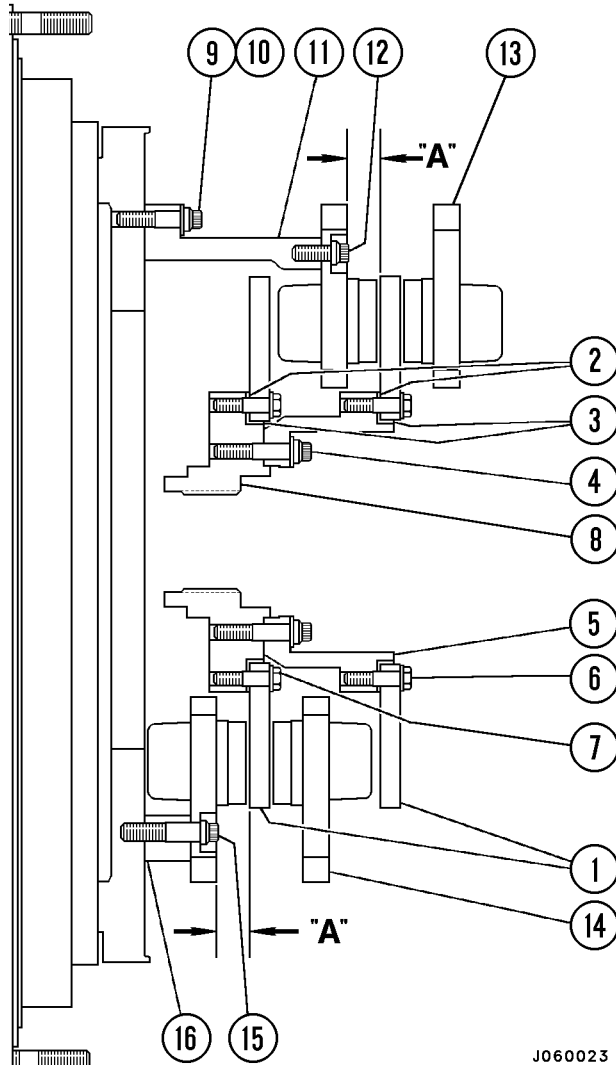

FIGURE 6-4. REAR BRAKE MOUNTING
7. Remove capscrews and flatwashers (6, Figures 6-4, 6-5 & 6-6) while supporting outboard disc (1). Tap disc and bushing assembly (3) off disc adapter (5). Remove shims (2) and record number, thickness and location of shims for use in assembly.
8. Remove capscrews (4, Figures 6-4, 6-5, & 6-6) and disc support (5).
9. Remove capscrews (12, Figure 6-4) and inside torque plate from caliper mount (11).